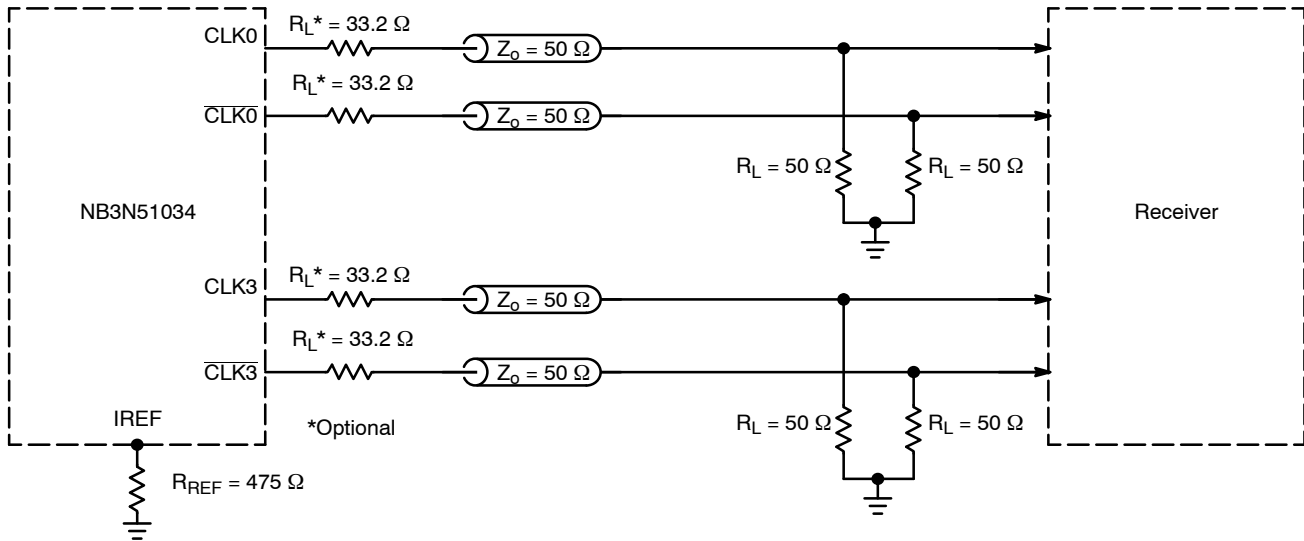
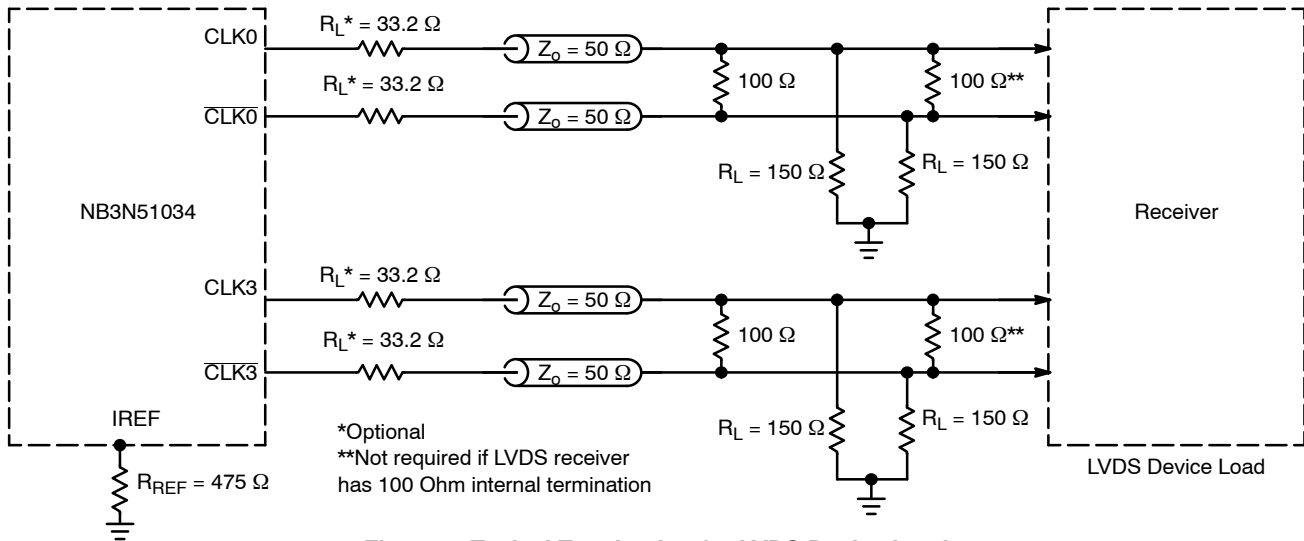

Figure 7. Typical Termination for HCSL Output Driver and Device Evaluation
Figure 8. Typical Termination for LVDS Device Load
- VDDXD and VDDODA power pins must be shorted to power supply voltage VDD and GNDXD and GNDODA ground pins must be shorted to power supply ground GND. Measurement taken with outputs terminated with RS = 33.2 Ω, RL = 50 Ω, with test load capacitance of 2 pF and current biasing resistor set at 475 Ω. See Figure 7. Guaranteed by characterization.
12. VDDXD and VDDODA power pins must be shorted to power supply voltage  $V_{DD}$  and GNDXD and GNDODA ground pins must be shorted to power supply ground GND. Measurement taken from differential output on single-ended channel terminated with  $R_S = 33.2\ \Omega$ ,  $R_L = 50\ \Omega$ , with test load capacitance of 2 pF and current biasing resistor set at 475  $\Omega$ . See Figure 7. Guaranteed by characterization.
19. VDDXD and VDDODA power pins must be shorted to power supply voltage  $V_{DD}$  and GNDXD and GNDODA ground pins must be shorted to power supply ground GND. Measurement taken from differential output on single-ended channel terminated with  $R_S = 33.2\ \Omega$ ,  $R_L = 50\ \Omega$ , with test load capacitance of 2 pF and current biasing resistor set at 475  $\Omega$ . See Figure 7. This parameter is guaranteed by characterization. Not tested in production.
The outputs can be terminated to drive HCSL receiver (see Figure 7) or LVDS receiver (see Figure 8). HCSL output interface requires 49.9  $\Omega$  termination resistors to GND for generating the output levels. LVDS output interface may not